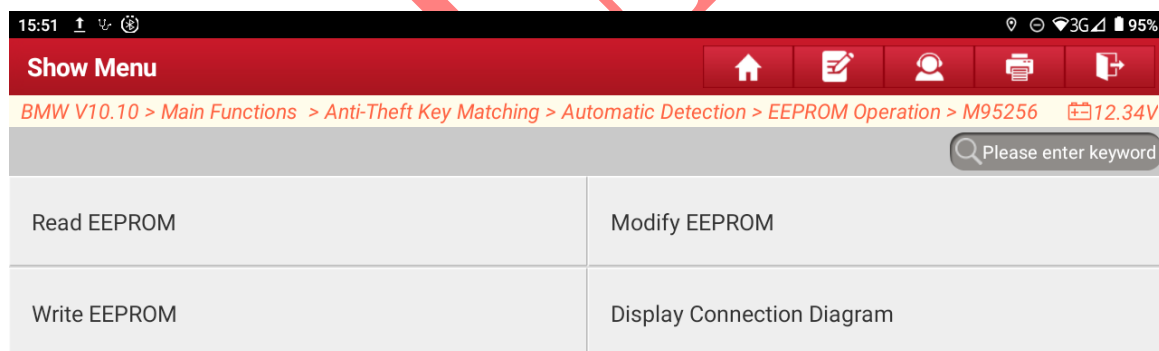

Figure 14
14. Select 【Display Connection Diagram】, as shown in Figure 14.